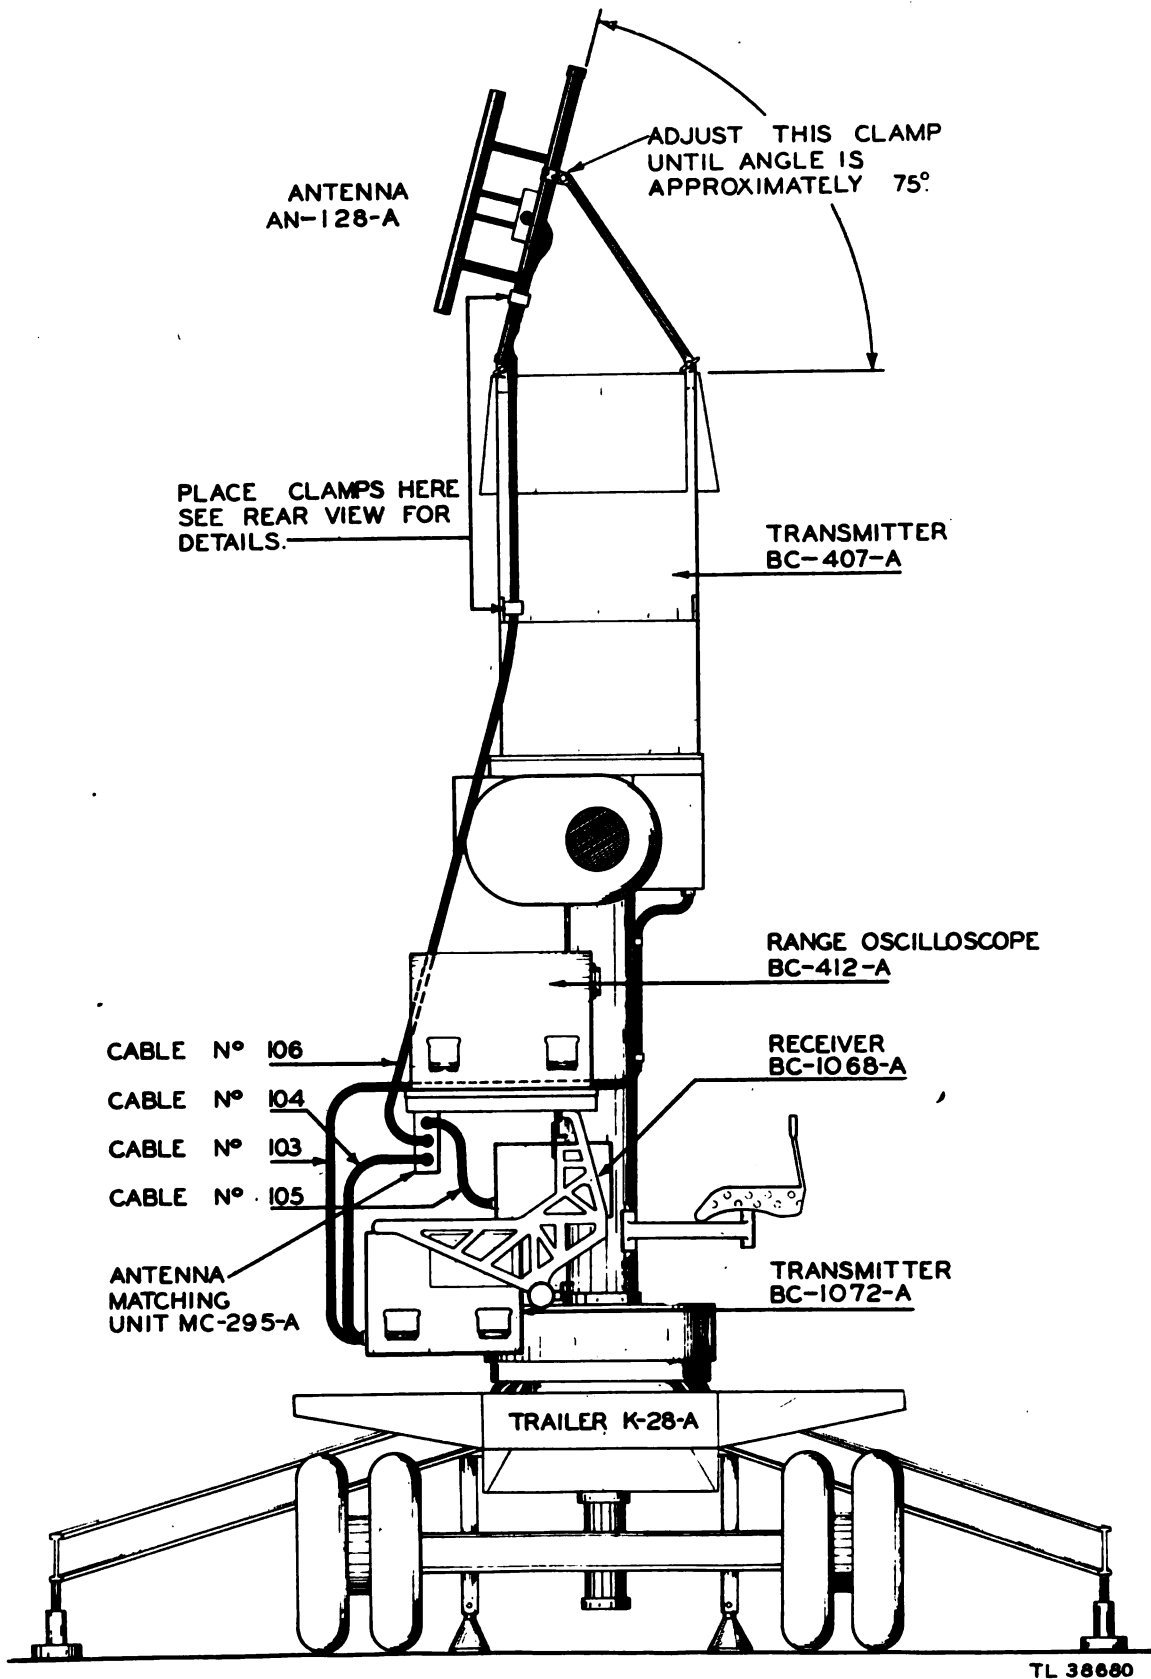

Figure 32. Radio Equipment RC-148 mounted on Radio Set SCR-268, end view.
The antenna of the identification equipment is used for receiving and transmitting as described in paragraph 20. This antenna is mounted on top of the transmitter of Radio Set SCR-268-(\*) at an angle of 75° from the base of the transmitter, as shown in figure 32. Before mounting the antenna, the mounting brackets and braces should be attached to
k. The antenna, if properly mounted, should be tilted approximately 75° from the base of the transmitter, viewed from the side of Radio Set SCR-268-(\*). If the antenna is not in this angular position, it may be adjusted to the correct position by loosening the two clamps on the back tubular supports and sliding these clamps in either direction until the 75° angle is obtained (fig. 32).
110, and for convenience in locating their various terminating positions on the drawing, the terminals are so marked. Cables 108 and 110 are not shown in position on the block diagram or in figure 32. Further information for use of these cables is given in the maintenance section of this manual.
b. **INSTALLATION.** (1) Connect cable 106 between the antenna junction box and the ANTENNA receptacle (106) of the antenna matching section (fig. 35). Carefully connect this cable as shown in figures 32 and 34, and with the two clamps provided fasten the cable as shown in figure 34.
(2) Connect cable 105 between the top receptacle marked RECEIVER (105) of Antenna Matching